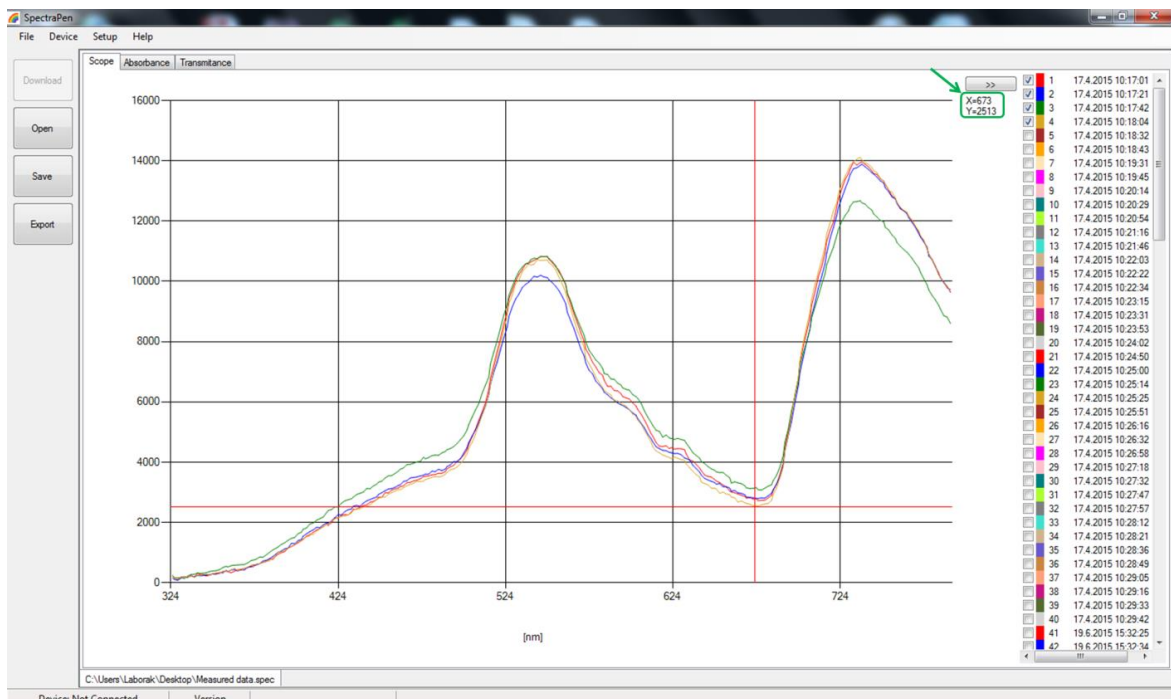

Fig. 22 Marker feature
7. Marker feature is available in the graph. This marker enables displaying of the numeric values for wavelength and transmittance or absorbance for the selected wavelength of the scan (Fig. 22). Use the mouse to select the given point. In top right corner of the graph is shown exact value for the selected point in nm (x-axis) and values on y-axis.